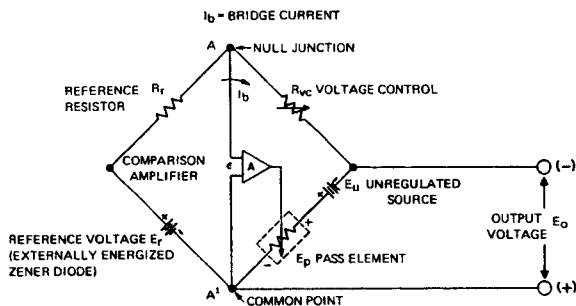

FIG. 3-3 KEPKO POWER SUPPLY AND COMPARISON BRIDGE CIRCUIT
3-8 INTRODUCTION TO REMOTE PROGRAMMING (Refer to FIG. 3-3)
3-9 A few general remarks may be in order to familiarize the user of this equipment with the terminology and basic equations pertaining to remote programming of the Kepco PCX and PCX-MAT Power Supplies. Electrically, the power supply consists of the unregulated DC source (E_U) the pass element (E_P), the DC error amplifier (A) and a comparison circuit which resembles a four-arm electrical bridge. (Refer to FIG. 3-3). The elements of the bridge are arranged to produce a virtual zero at the amplifier input when the bridge circuit is at balance ($V_{AA}'=0$). Any tendency for the output voltage to change in relation to the reference voltage (R_r) creates an error signal which, by means of negative feedback and the amplifier, tends to correct the output voltage towards restoration of bridge balance.